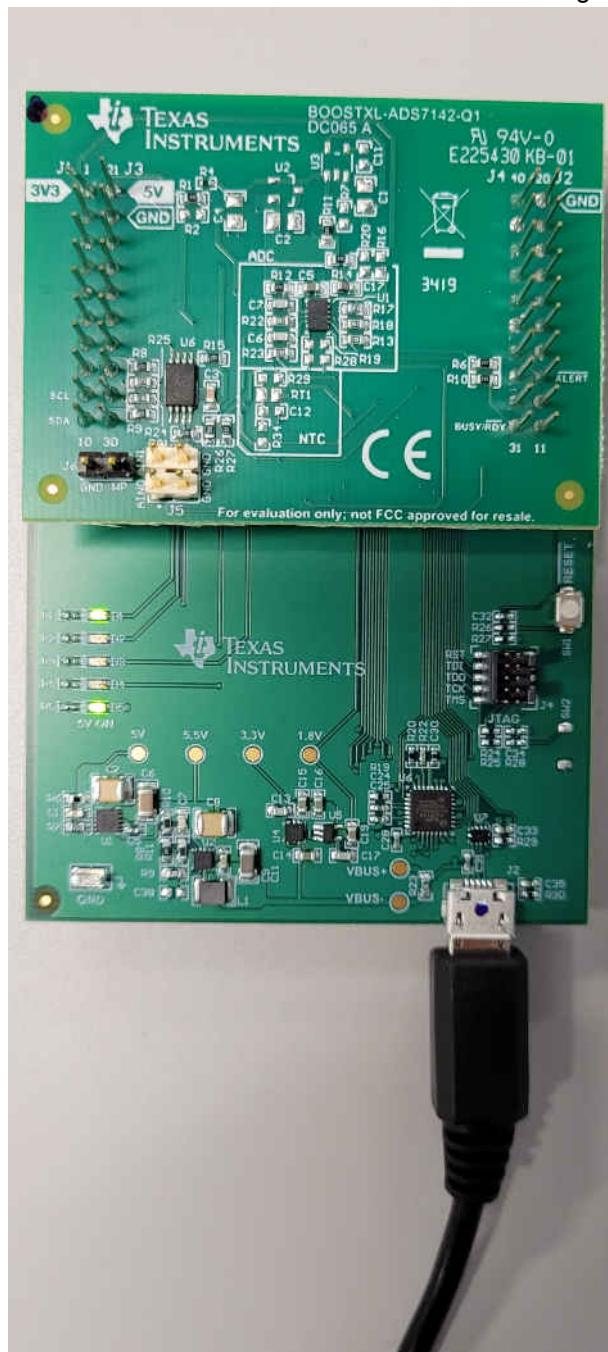

Figure 3-2. BOOSTXL-ADS7142-Q1 Stacked on PAMBoard
3. Figure 3-2 shows the assembled BOOSTXL-ADS7142-Q1 and PAMB configuration.